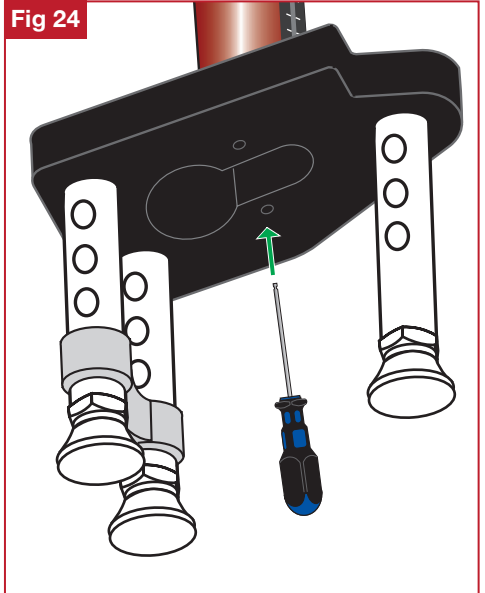
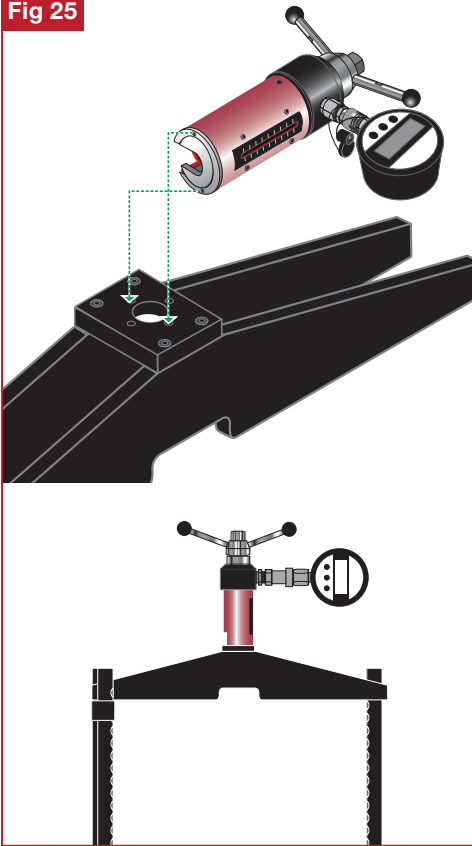

Fig 25
Fig 26
6. By using the same screws you removed from the other bridge, line up the holes and use the 3mm ball driver. The tester can be attached in-line (**fig 25**) or at 90 degrees (**fig 26**).